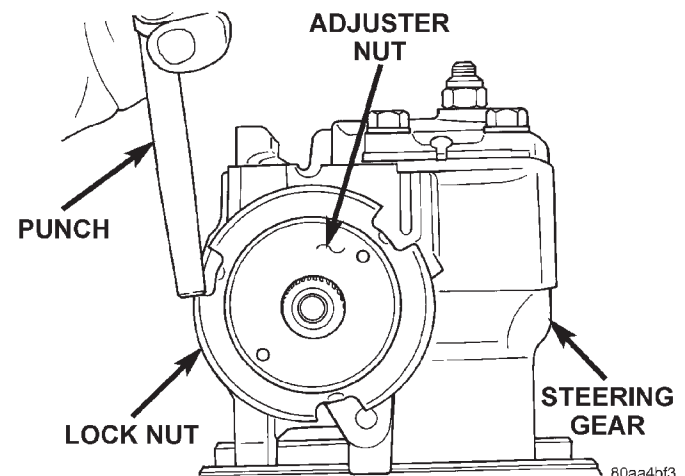

Fig. 24 Adjuster Lock Nut
(2) Remove adjuster plug locknut (Fig. 24).
(3) Rotate the stub shaft back and forth with a 12 point socket to drain the remaining fluid.